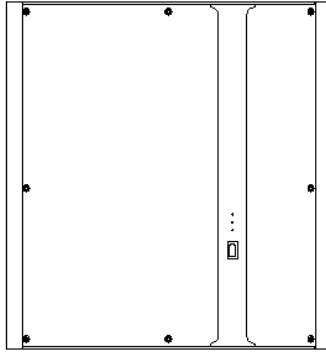

Figure 2.15 Re-cover the Upper Cover Plate
Step 10: the wiring is completed, please re-cover the B3 upper cover plate, use the T20 double offset ring spanner to tightly lock the upper cover screw. The suggested torque is $2.8 \text{ N.m} \pm 10\%$. Then install the white plug, as shown in Figure 2.15.